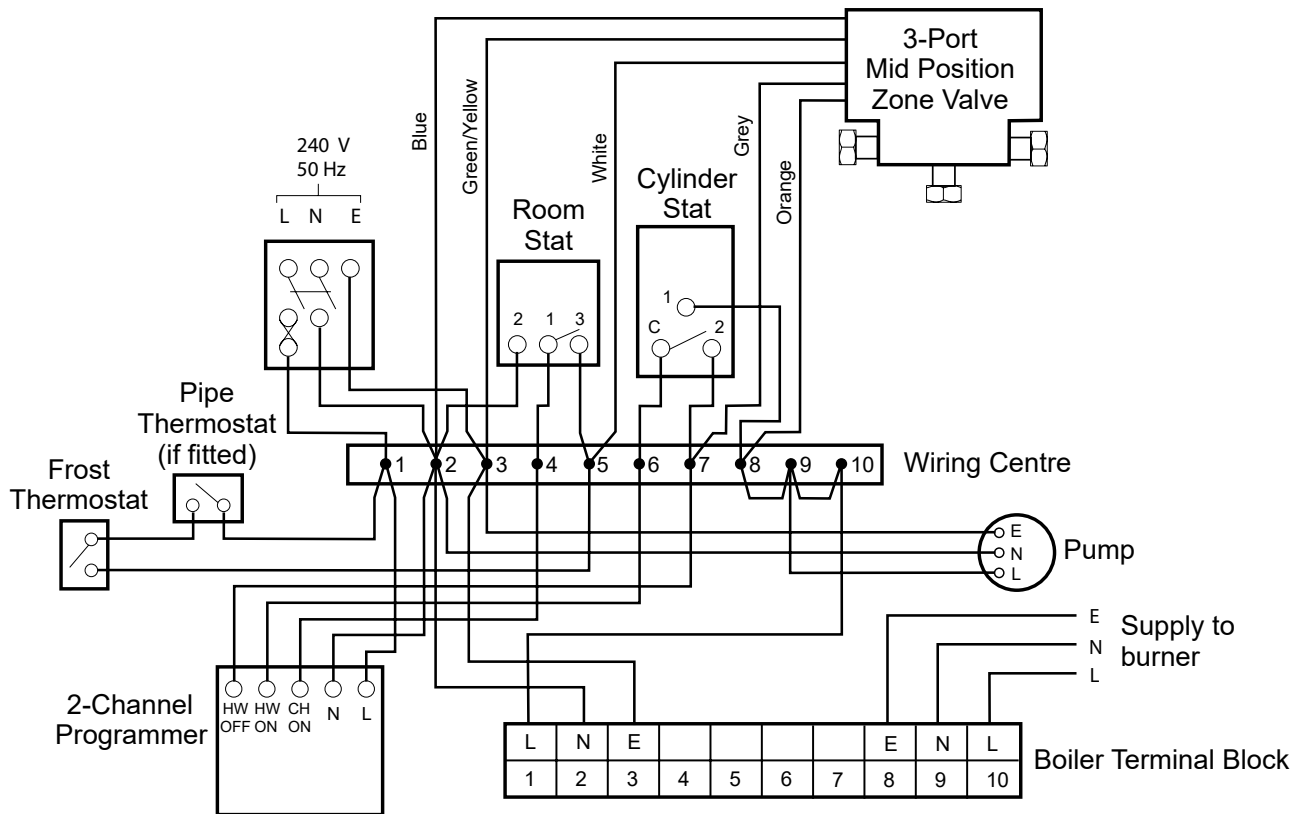

Figure 8-1: Pro models with 3-port valve control system
Refer to Figures 8-1 to 8-4 for typical control system wiring diagrams for all models.
Refer to Figures 8-1 to 8-4 for typical control system wiring diagrams.
3. Make the remaining required connections to the control panel, as detailed in Figures 8-1 to 8-4.
Refer to Figures 8-1 to 8-4 (as appropriate) for connection details.